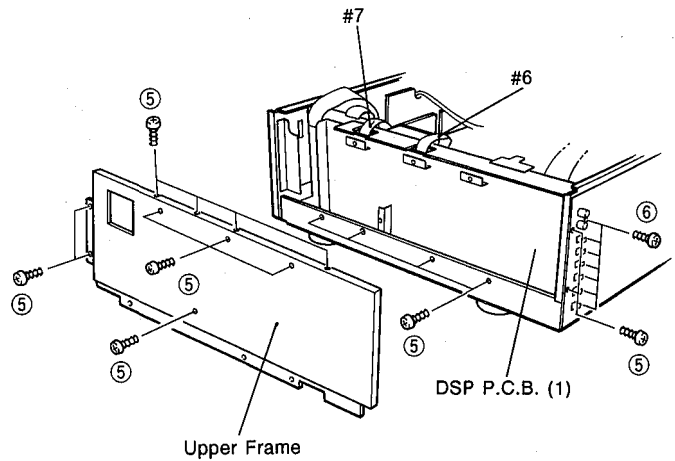

Fig. 2
4. Removal of DSP PCB (2)
- a. Remove 16 screws (⑤) and remove the right upper frame. (Fig. 2)
- b. Remove connectors #6 and #7. (Fig. 2)
- c. Remove 7 screws (⑥) and remove the DSP P.C.B. (1). (Fig. 2)